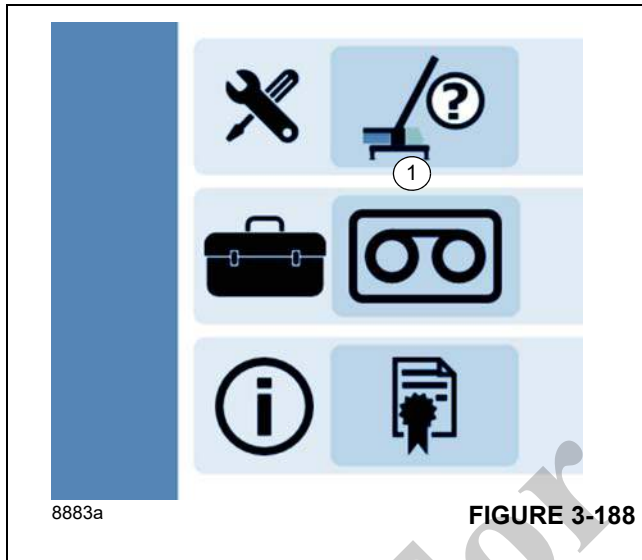

FIGURE 3-188
Select symbol (1), (Figure 3-188) and confirm – menu is opened.